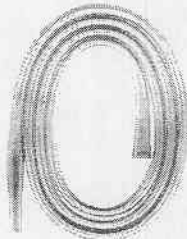

Figure 1-5. Patient suction tube.
(3) *Patient suction tube (fig 1-5).* The sterile 6-foot patient suction tube is used in conjunction with a suction catheter by qualified medical personnel to aspirate a patient.